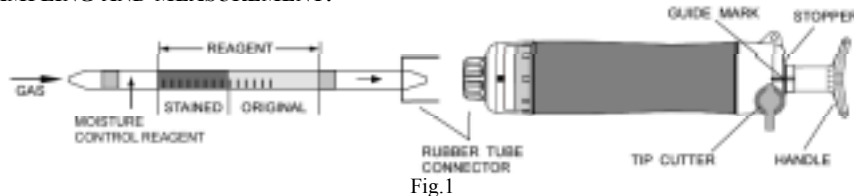

Fig.1
- ② Insert the detector tube into aspirating pump securely as shown in Fig.1. (Arrow mark shall point to the pump.)
- ③ Align the guide marks on the shaft and stopper of the aspirating pump.
- ④ Pull the pump handle at full stroke locked position and wait for 1.5 minutes or until the completion of sampling is confirmed with flow indicator of the pump. (See descriptions of the flow indicator in the instruction manual of the pump.)
- ⑤ On the completion of sampling, read the scale at the maximum point of the stained layer.